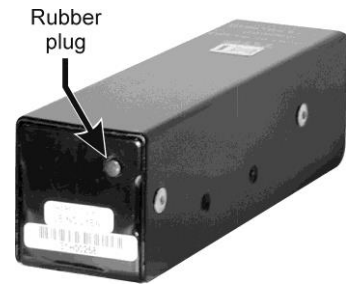

Figure 3. Rubber plug on back of DM1
- Remove the rubber plug from the back of the DM1 microphone unit, shown in Figure 3, and locate the adjustment screw inside the hole. Use a small standard (slotted) screwdriver to turn it approximately $\frac{3}{4}$ of the way counterclockwise, then replace the rubber plug.
In extremely noisy environments, locate and remove the rubber plug from the back of the DM1, shown in Figure 3, and carefully adjust the screw inside the hole counterclockwise to reduce background noise. Note that this also reduces intelligibility of the customer. Adjusting the screw clockwise increases intelligibility of the customer, but also increases background noise.